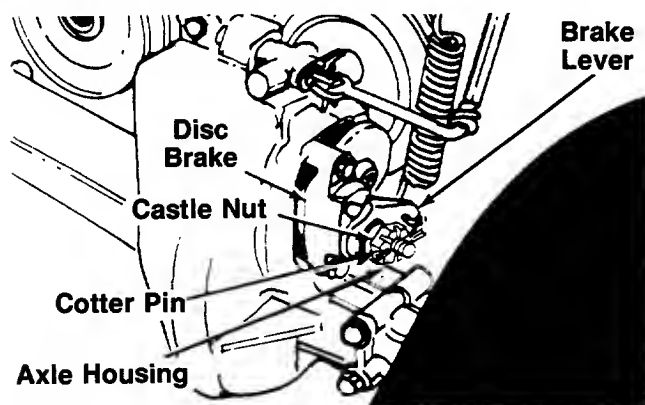

FIGURE 21.
### BRAKE ADJUSTMENT (See Figure 21)
**NOTE:** Your brake may be equipped with a lock nut instead of the castle nut and cotter pin shown in figure 21.
**NOTE:** Figure 21 is shown with the unit tipped up on rear wheels for clarity only.